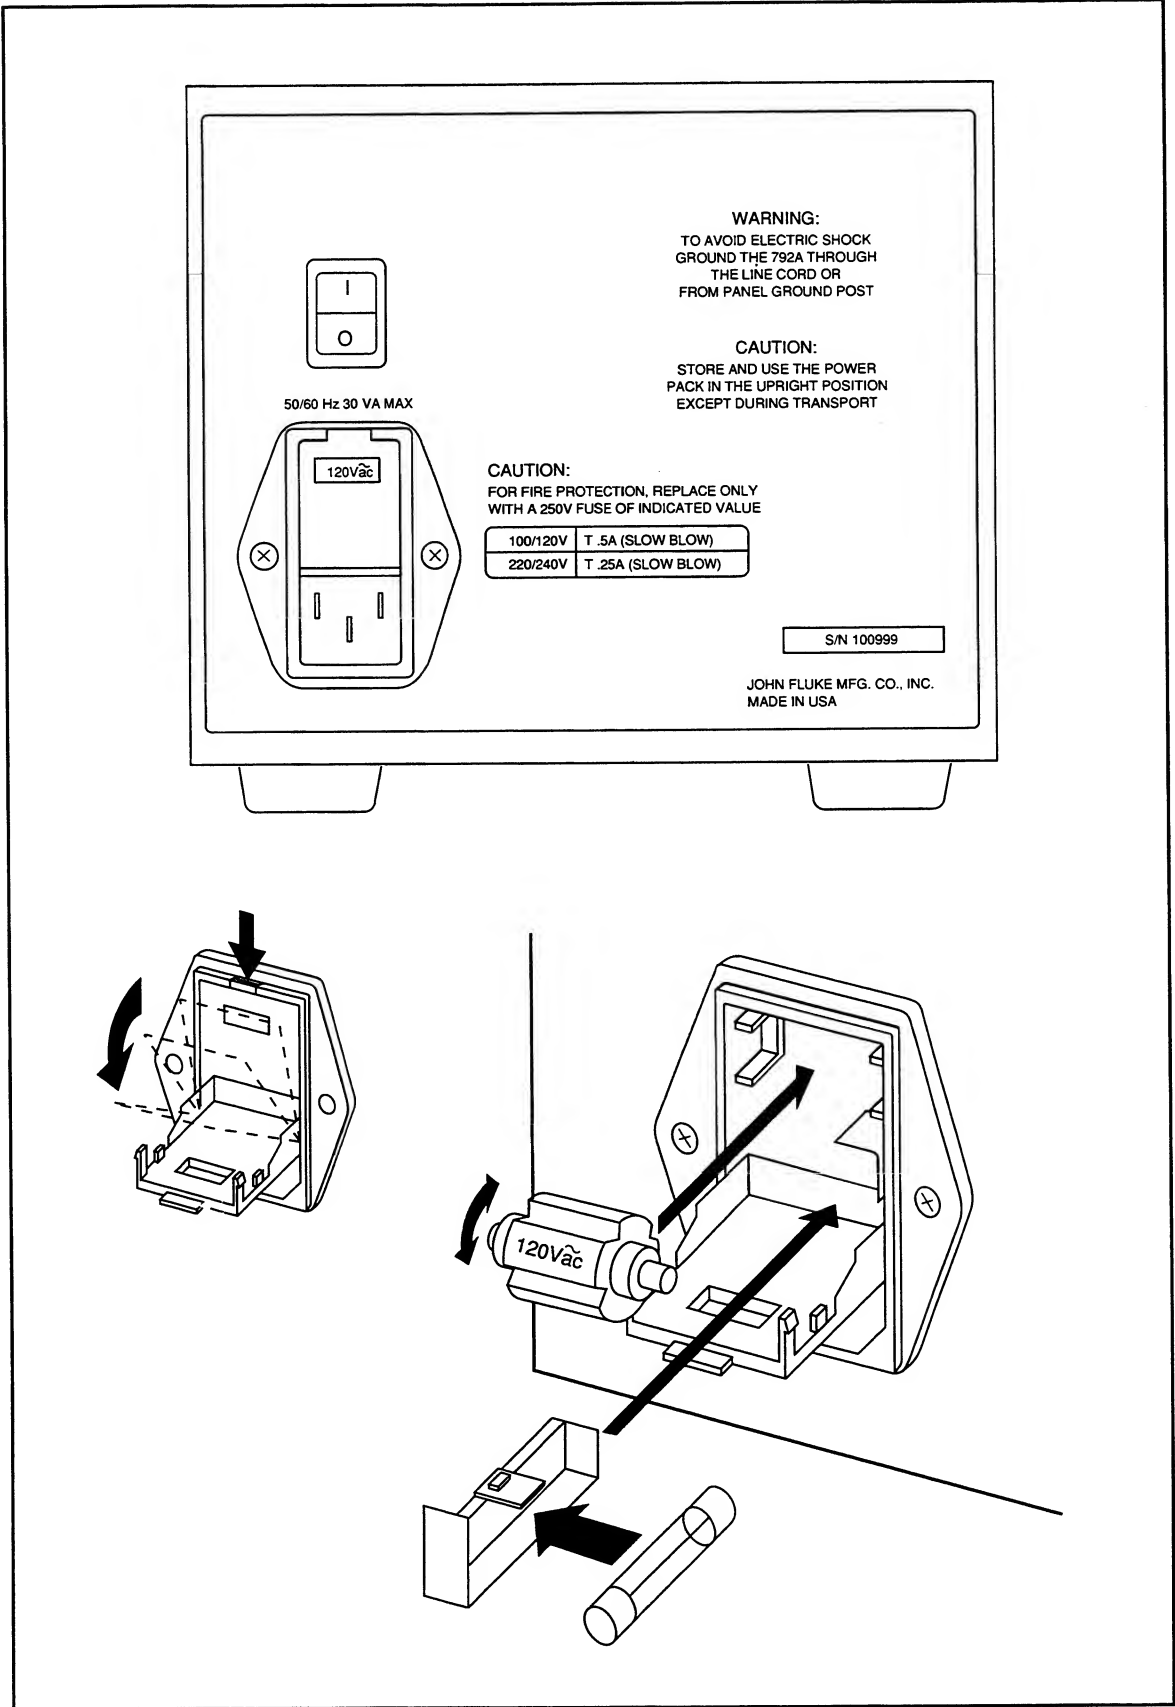

Figure 2-2. Fuse Rating Label and Fuse Location
To select line voltage and verify the fuse, or to replace the fuse, refer to Figure 2-2, and proceed as follows:
4. Verify the fuse type and rating using the data on the rear panel or Figure 2-2, and replace it.